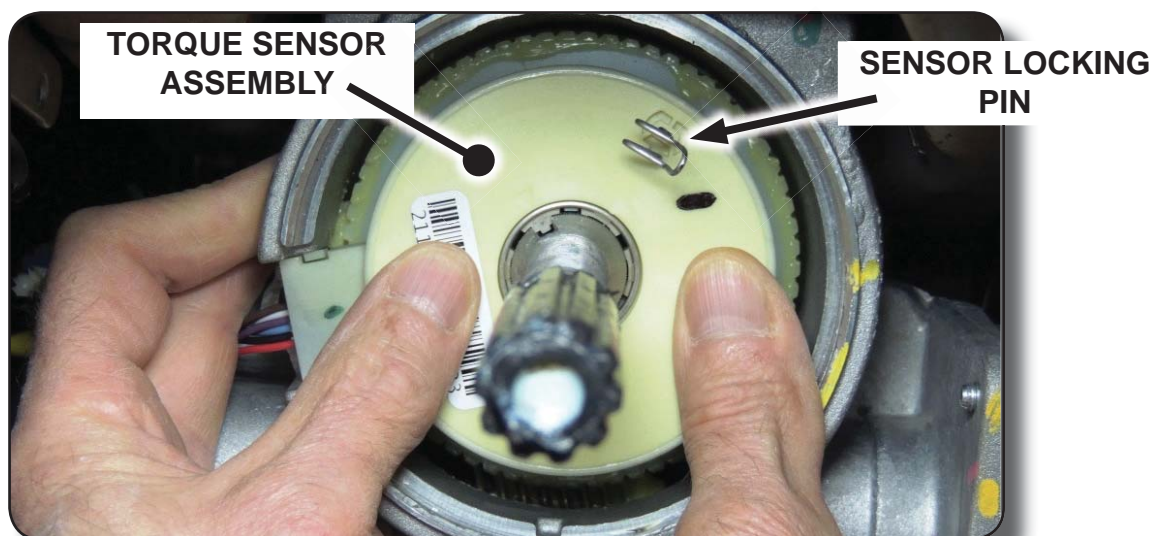

FIGURE 18
24. After the steering shaft is perfectly aligned with the spline on the alignment tool, remove the alignment tool and carefully install the sensor with the locking pin still in place. When seating the sensor assembly, apply gentle but even force on both sides of the sensor (DO NOT REMOVE THE LOCKING PIN YET). See Figure 18.